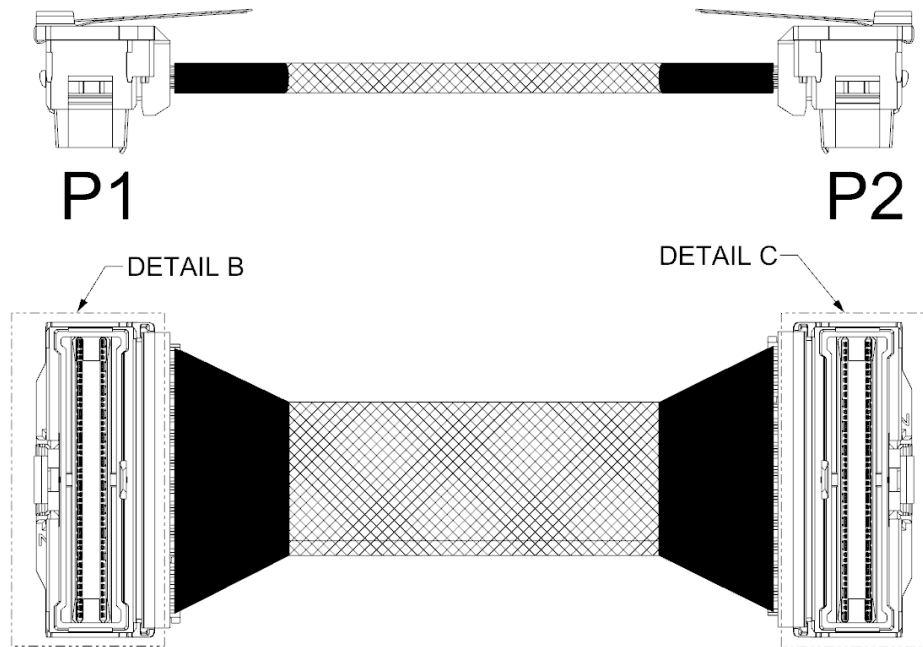
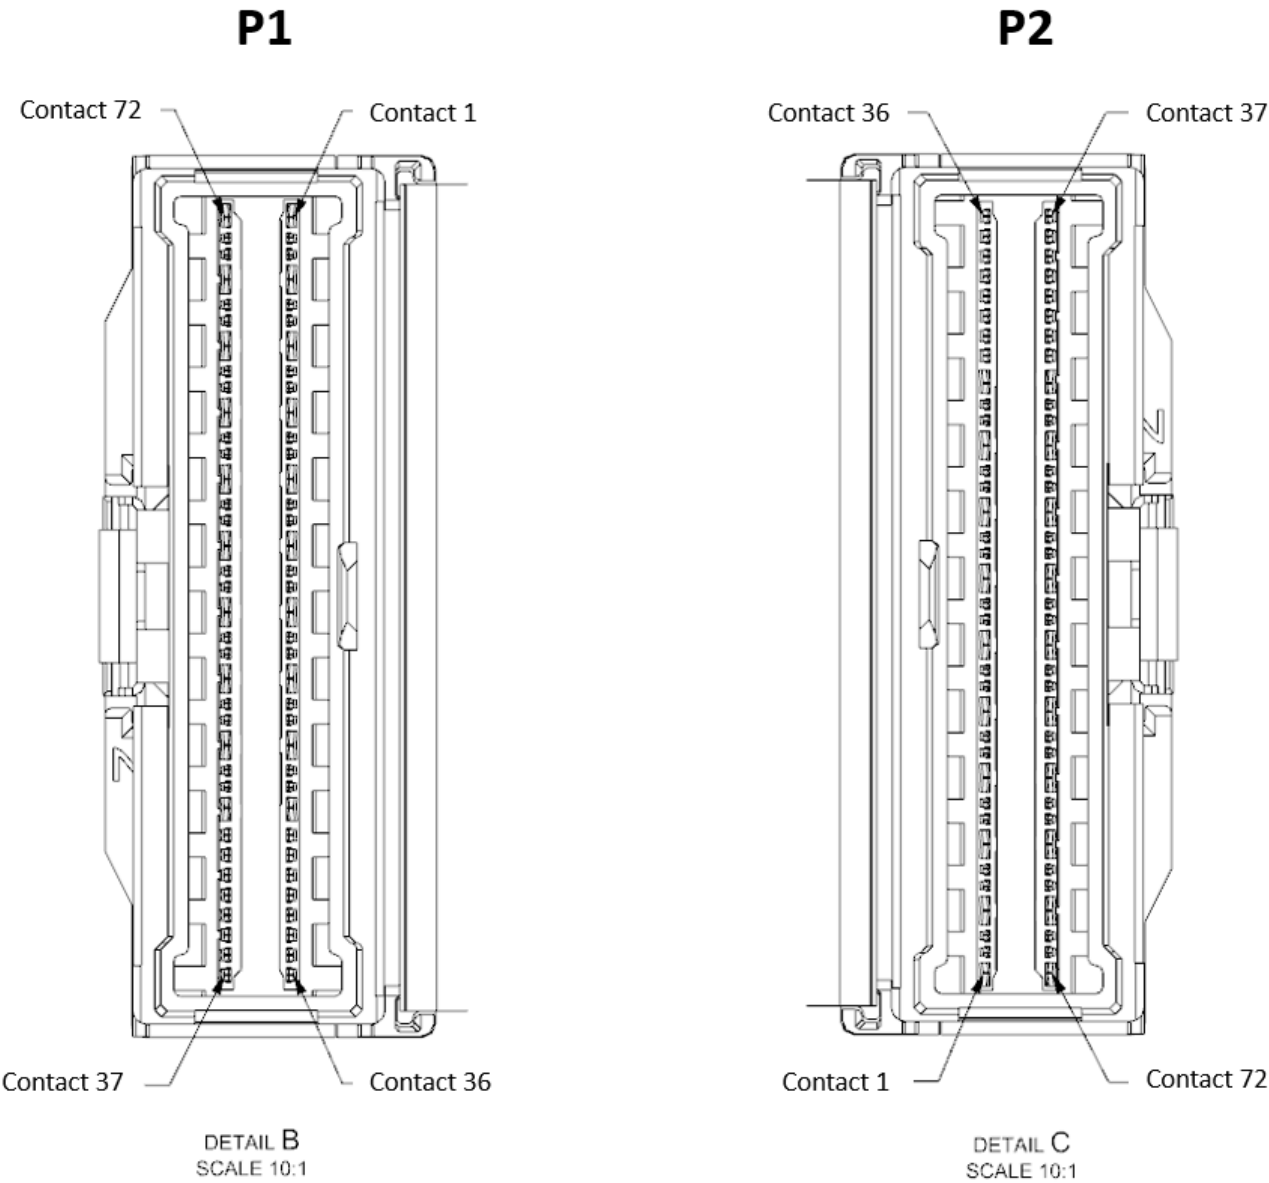

Figure 4-10: Cable Assembly Free-side Connector Numbering
Figure 4-11: Cable Assembly Free-Side Connector Contact Numbering
- 1 Figure 4-10 and Figure 4-11 illustrate cable assembly connector and contact numbering. Table 4-4 captures the